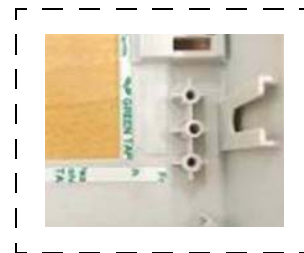

Figure 1
2. Affix tape where the protection plate is fixed inside the panel frame as shown in Figure 1.
- Make sure tape does not overlap the red circles in Figure 1.